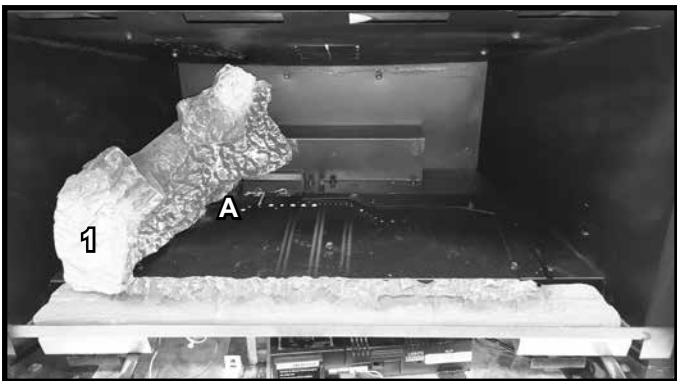

Figure 3. Log #1 Installed
**LOG #1:** Locate the cutout on Log #1, place it over the pilot hood and set the log on the left side of the firebox. Rotate Log #1 clockwise until it contacts log pin A and the firebox wall. Ensure that the end of Log #1 is in contact with the air scoop. See Figure 3.